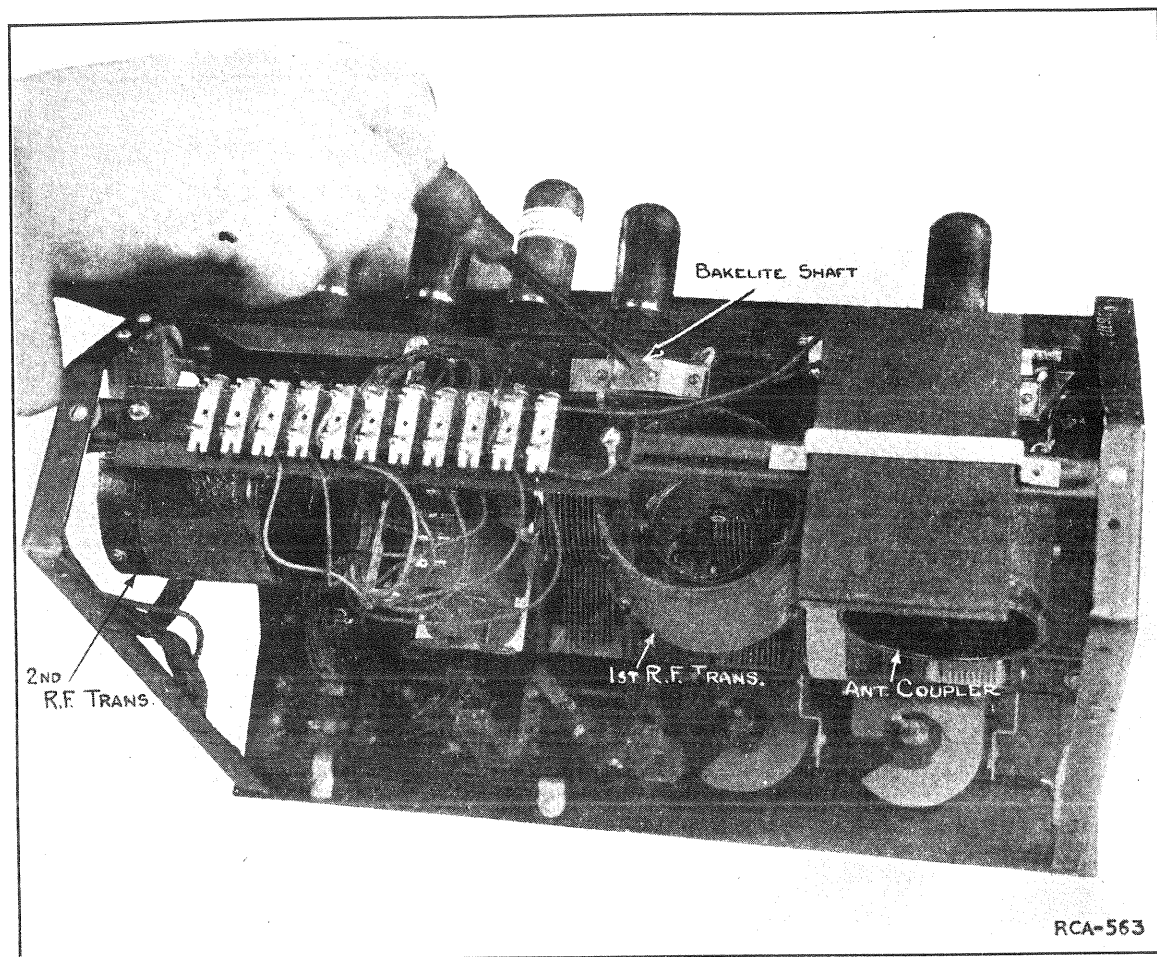

Figure 6
- (6) Remove special tube from socket No. 1 and replace Radiotron UX-199. Place Special Radiotron in socket No. 2 and repeat the process described above.
- (7) Adjust neutralizing condenser No. 2 (directly behind socket No. 2) in the same manner as No. 1 for minimum or no signal. (See Fig. 6.)
- (8) Remove special tube and replace Radiotron No. 2. If these adjustments have been properly carried out, the Radiola will not oscillate at any position of the Station Selector Drum with the Amplification Control at zero, it being necessary to rotate the Amplification Drum approximately half way around before oscillation occurs. This is the correct condition and a notable increase in ease of tuning and sensitiveness will be experienced when Radiola 20 is properly neutralized.